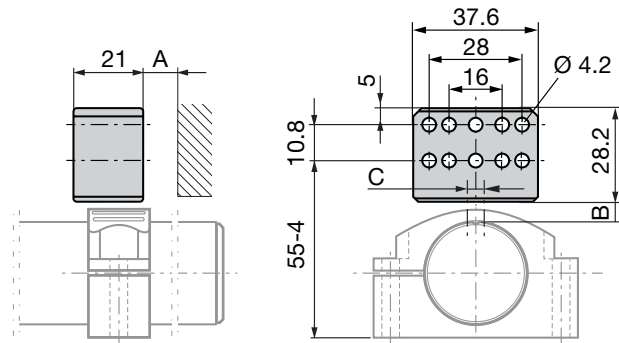
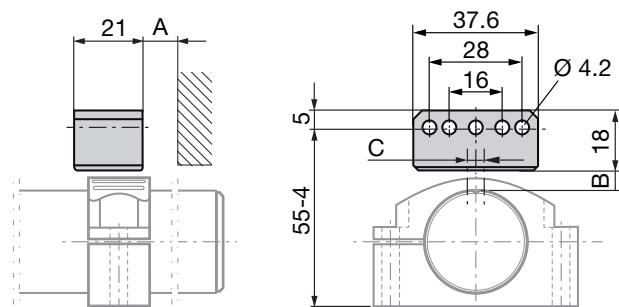

Fig. 4-1: Dimensions and distances with BTL6-A-3800-2 magnet
Fig. 4-2: Dimensions and distances with BTL6-A-3801-2 magnet
- Ensure that the distance A between parts made of magnetizable material and the magnet is at least 10 mm (see Fig. 4-1, Fig. 4-2).
- Maintain the following values for distance B between the magnet and transducer and for center offset C (see Fig. 4-1, Fig. 4-2):
Tab. 4-1: Distance and offset for magnets (see Fig. 4-1, Fig. 4-2)